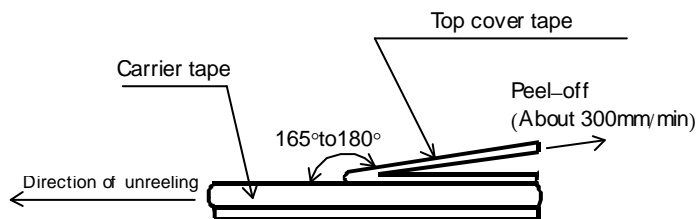

Figure-4
- 5). The peel strength of the top cover tape shall be with in 0.1N to 0.5N on the test method as shown in the following Figure-4.